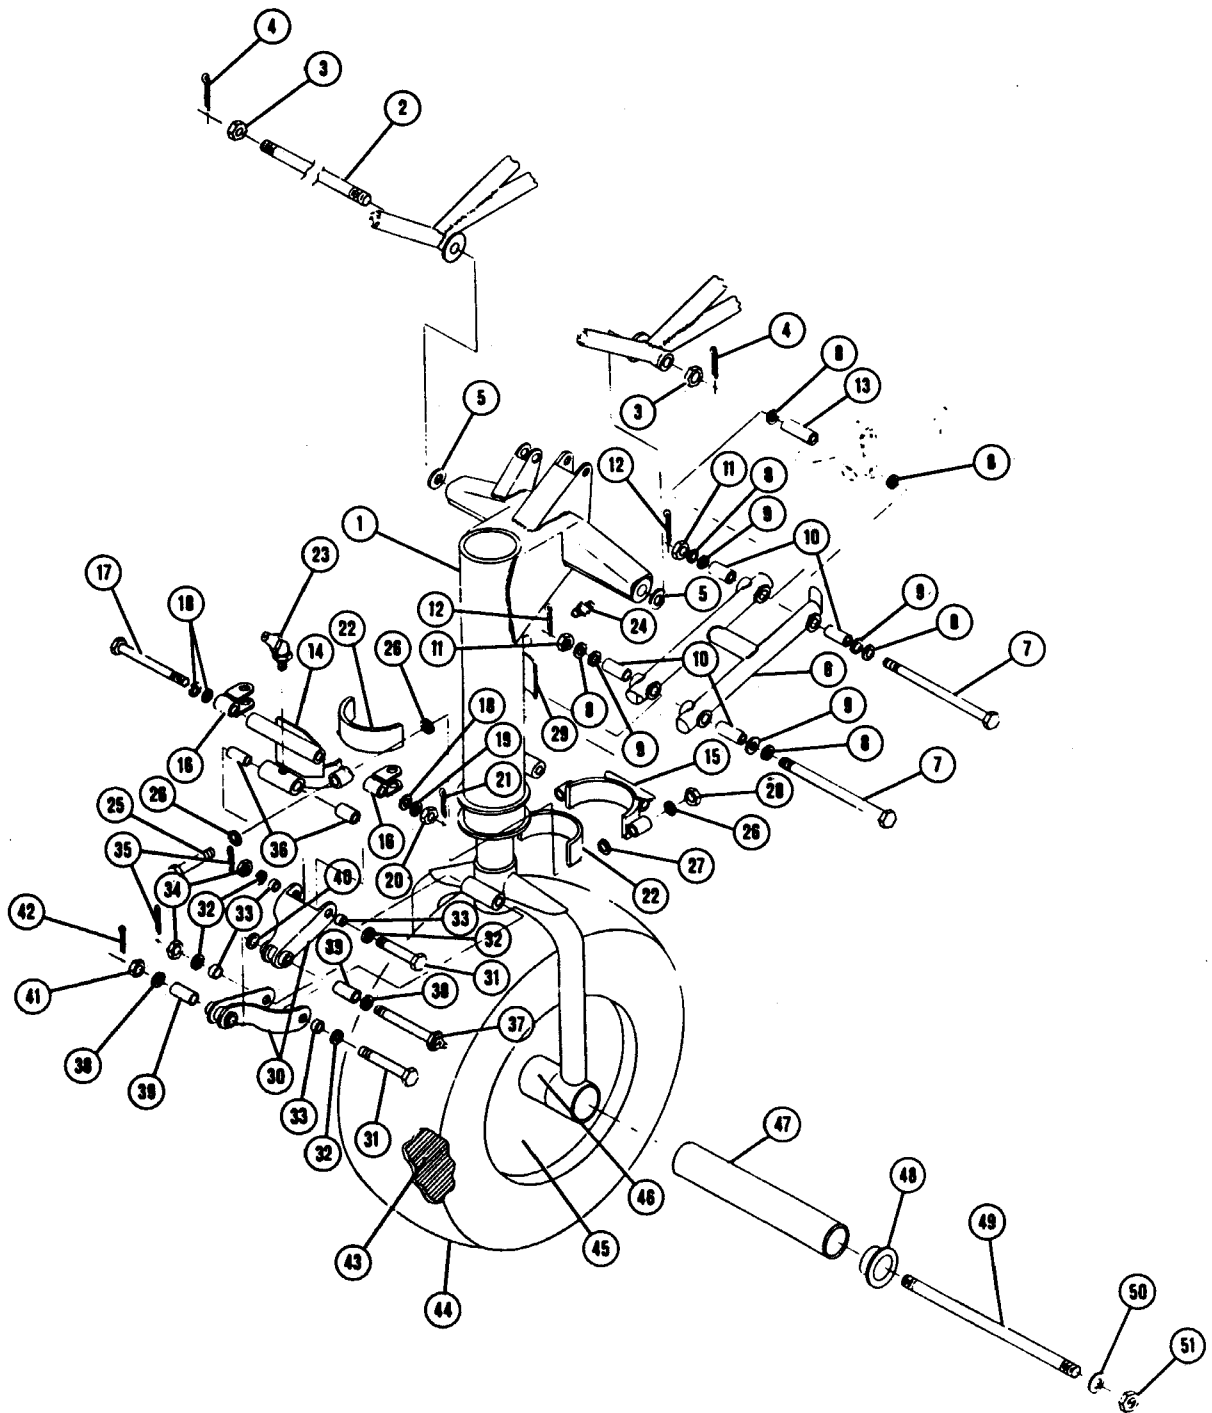

Figure 7-9. Nose Gear Installation, Aircraft Serial Numbers 75-30796 and below, and 32-15, 31004 and above.
d. On Aircraft Serial Numbers 75-30796 and below, and 32-15, 31004 and above disconnect the steering rods from the swivels (16, Figure 7-9).
h. On Aircraft Serial Numbers 78-30905 and below and 32-15, 31004 and above, remove the pivot bolt (2, Figures 7-9 and 7-10).
Legend for Figure 7-9